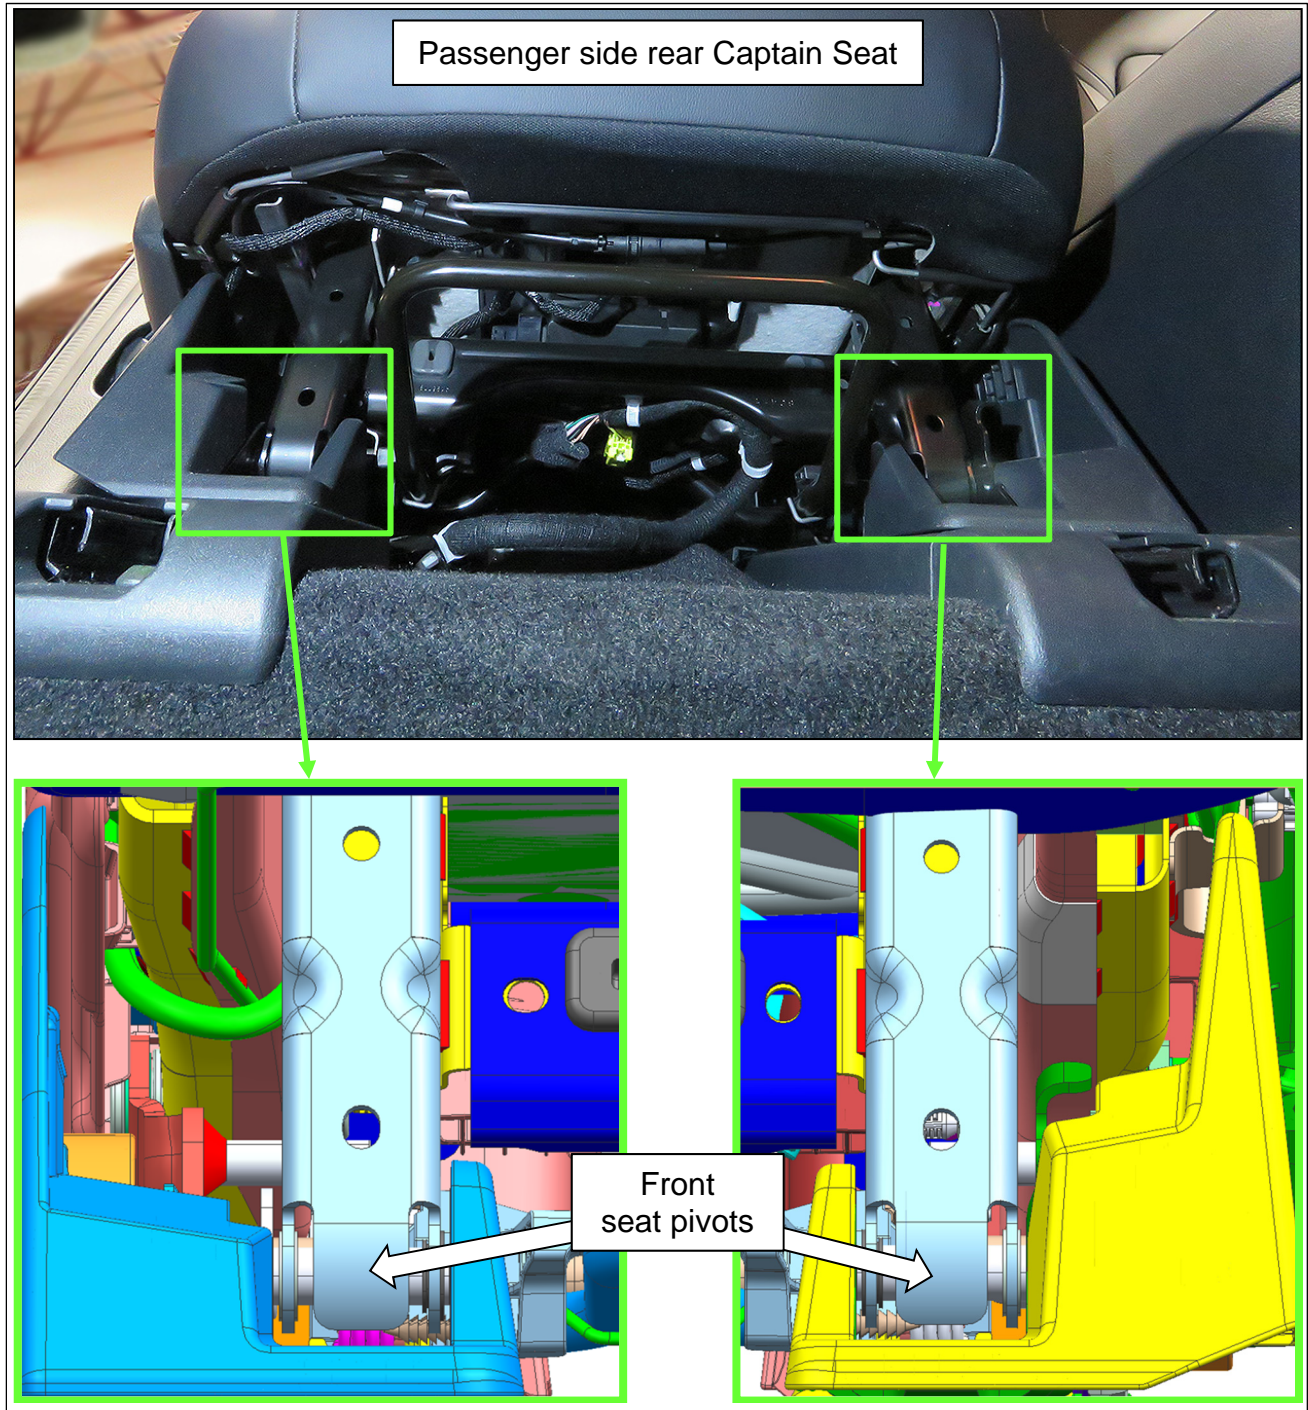

Figure 1
Figure 1 is of a passenger side Captain Seat and its two (2) seat front pivots. The driver side Captain Seat and 60/40 bench seats are similar.